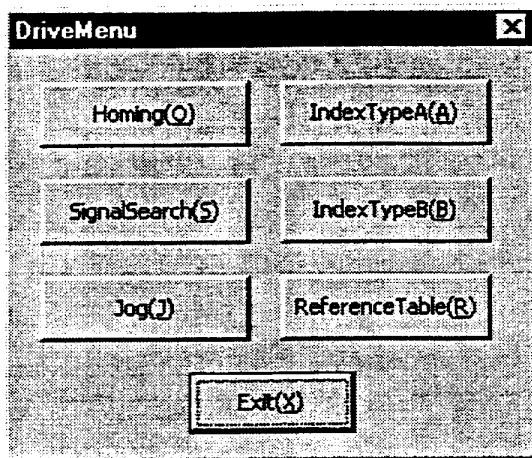

Figure 7.20 "DriveMenu" dialog box
Click *"Drive (D)"* under *"MainMenu"* to display the *"DriveMenu"* dialog box (see Figure 7.20).